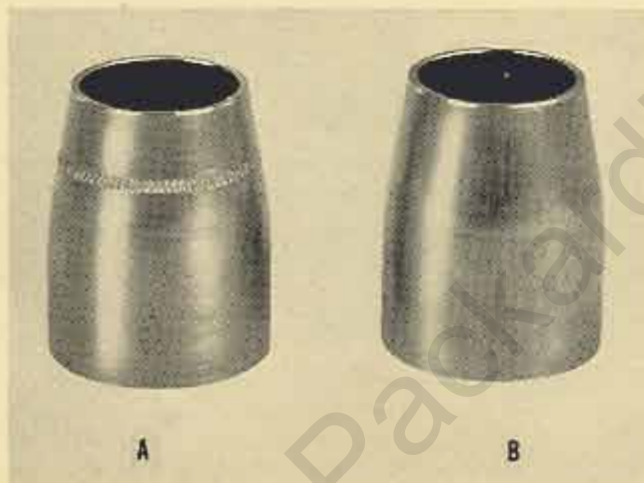

Fig. 2
Fig. 2 shows the pinion bearing sleeve used with the 25° bearing indicated by "A." The sleeve used with the 40° bearing is indicated by "B." The knurled section on the 25° bearing sleeve (A) is provided for identification purposes.